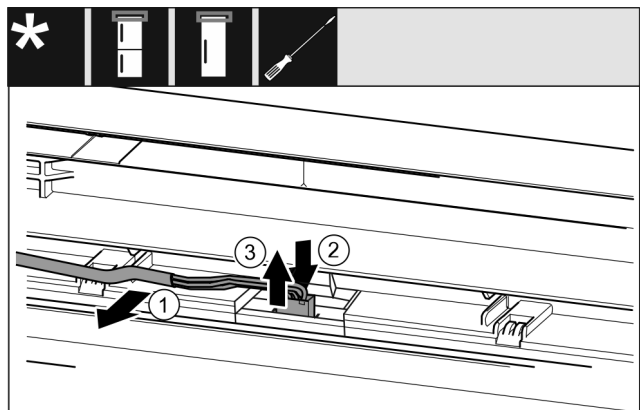

Fig. 20
- ▶ Carefully release the grey cable from the guide in the door. Fig. 20 (1)
- ▶ Push back the lug behind the plug. Fig. 20 (2)
- ▶ Pull out the plug carefully upwards. Fig. 20 (3)